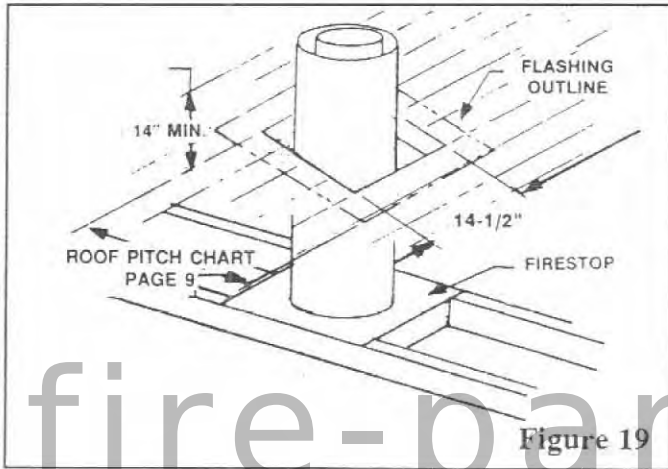

Figure 19
STEP 5: Cut the hole in the roof, then uncover the pipe and add sections until the chimney extends a minimum of 14 inches above the highest point of the roof cutout (Figure 19).
STEP 6: When the clearance between outer pipe and roof joist is less than 2", a roof joist shield (RJS-8D) is required. Slide the roof joist shield over the outer pipe. It must be positioned to cover the joist at all points around the chimney pipe. If necessary, trim the shield slightly to match the slope of the roof. Attach the shield to the joists using the straps provided (see Figure 19).
STEP 7: Position the flashing over the chimney and flat on the roof. Mark an outline of the flashing on the roof and remove the flashing. Remove all nails within the outlined area (Figure 19)